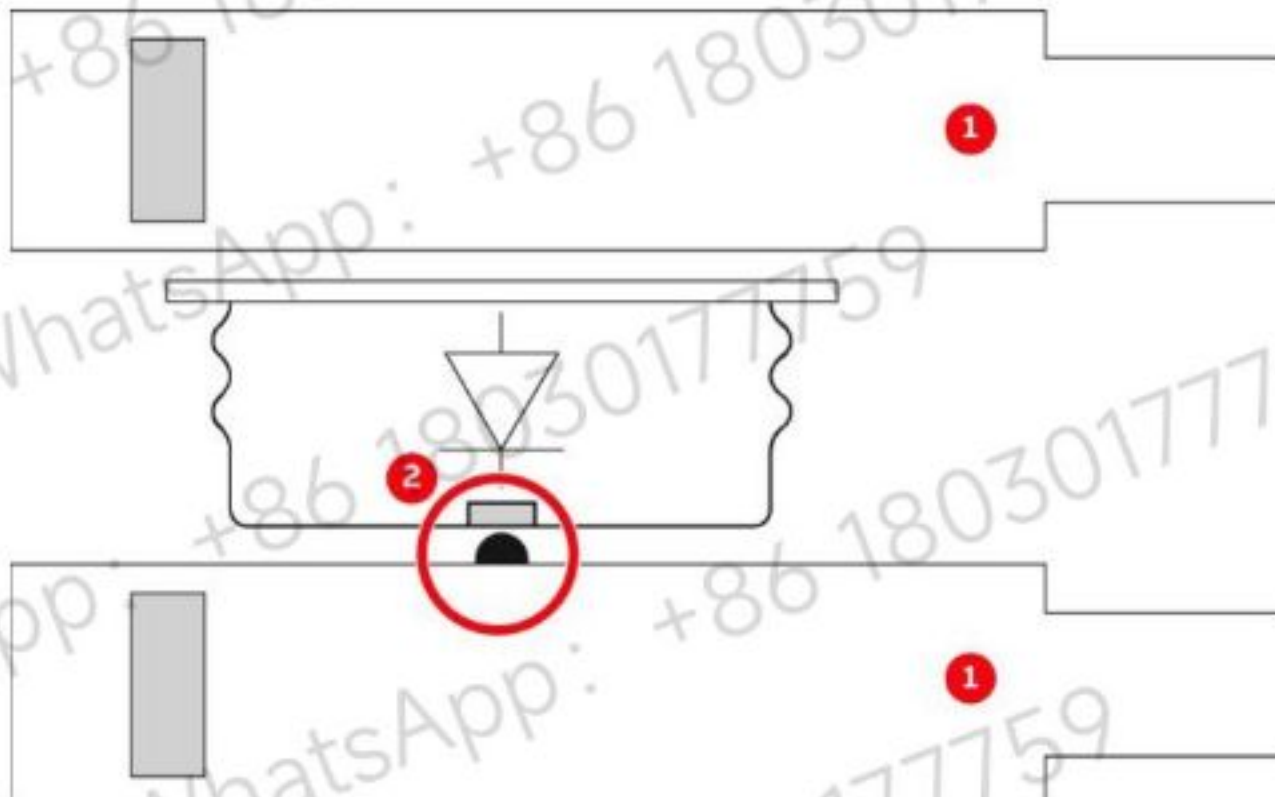

Figure 10–24 Centering freewheeling and neutral point diodes
6. Use the centering ball on the lower heat sink (see Fig. 10–24) to position the diode.